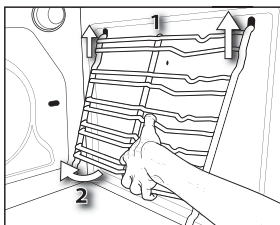

Fig. 3
2. To remove the grilles, lift the up (1) and turn them (2) as shown in Fig. 3.